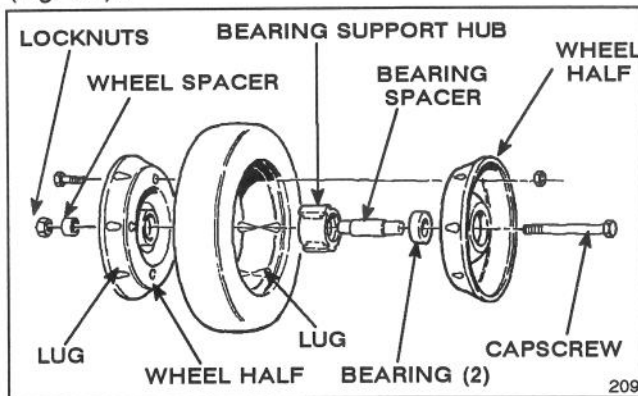

Figure 20
1. Stop engine and remove capscrew, wheel spacer, and locknut mounting wheel to pivot arm (Fig. 20).
2. Separate wheel halves from tire by removing (4) flange capscrews and locknuts (Fig. 20).
1. Position tire onto (1) wheel half aligning lugs on each (Fig. 20).
4. Using (2) $1/4''-20 \times 1.50''$ lg. fully threaded screws or bolts and non-locking nuts, loosely secure wheel halves together. Mount screws or bolts in opposing holes.
6. Install (2) flange capscrews and locknuts, previously removed, in remaining holes in wheel halves and tighten. Remove (2) long screws or bolts and replace with (2) flange capscrews and locknuts.